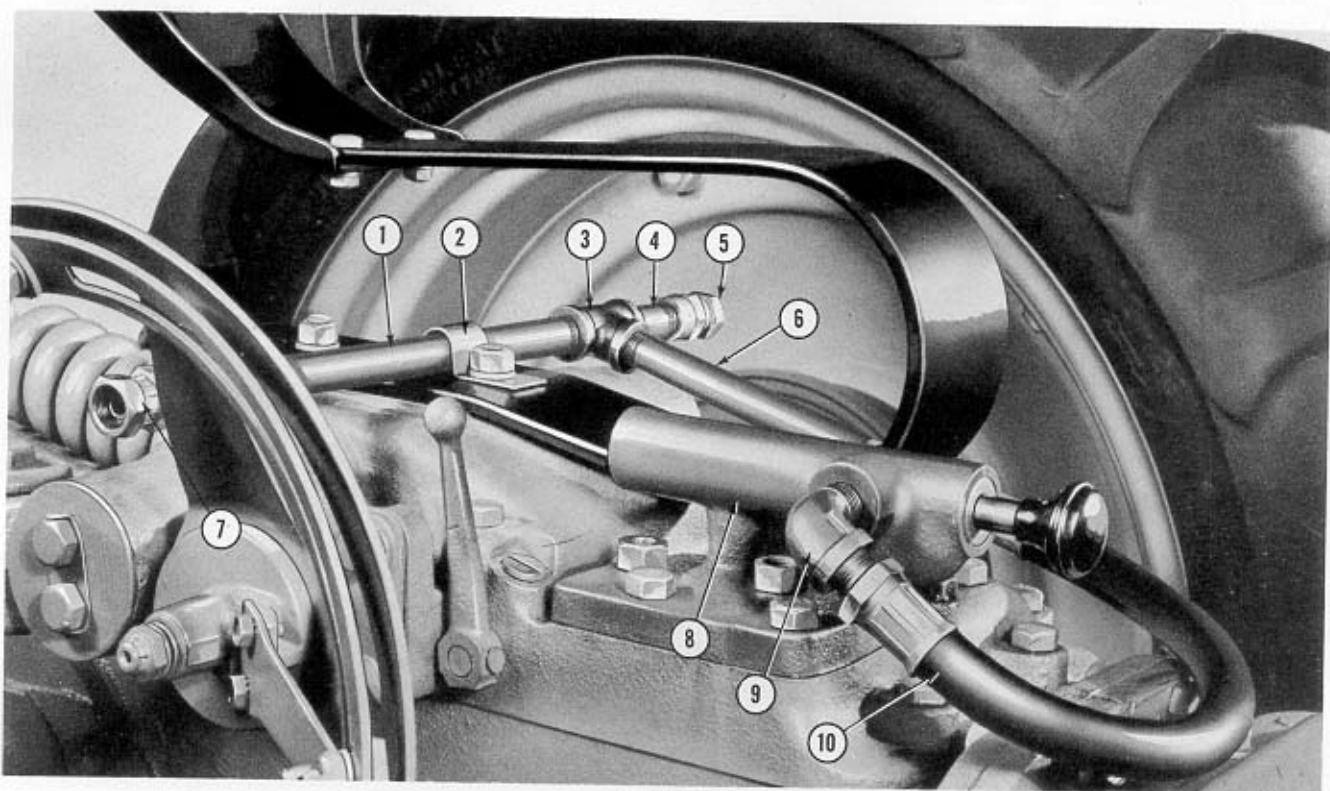

Figure 4
- Remove the manifold plate from the tractor hydraulic lift cover. Insert the "O" rings in the counterbores of the Selec-Trol Valve (8), Figure 4, and secure the valve to the tractor as shown.
- Coat the threads of the $\frac{3}{8}$ " street ell (9), Figure 4, with plumbers compound. Turn the street ell into the port on the Selec-Trol Valve and attach the hose (10) to the street ell as shown.
- Coat the threads with plumbers compound and assemble the $\frac{3}{8}$ " pipes (1), (4), and (6), Figure 4, the tee (3), and fittings (5) and (7) as shown. Attach the assembly to the tractor with the bracket (2) which is secured to the forward seat stud. Connect the hose (10) to the coupling on the end of the pipe (6).